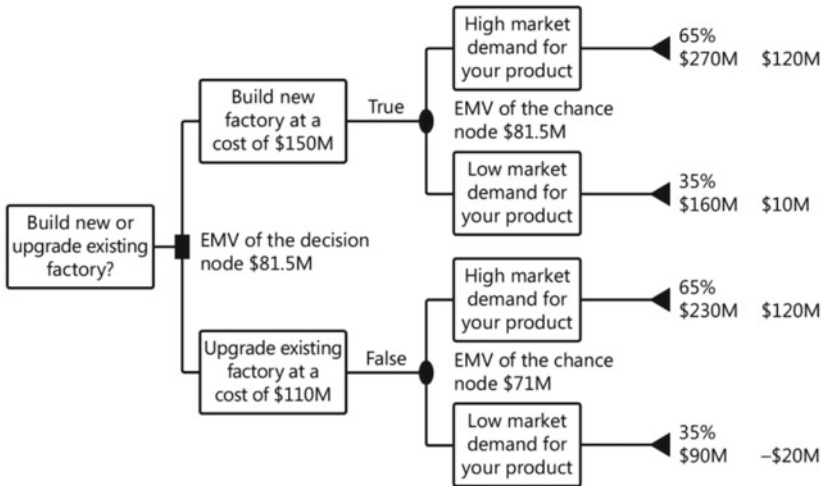

Figure 9-10. A decision tree showing the expected monetary value of building a new factory or upgrading an existing factory
3. Consider the decision tree outlining a choice about whether to build a new factory or upgrade an existing factory to take advantage of increased demand for your product. Using expected monetary value analysis, what is the best decision to make? (See the updated decision tree in Figure 9-10.)